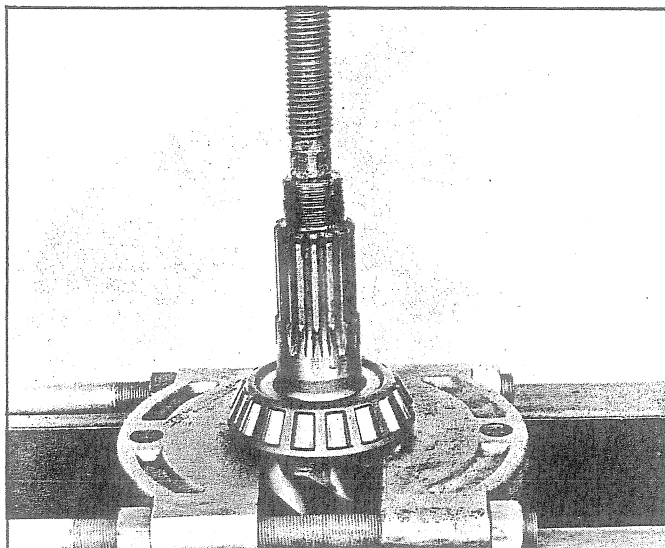

Fig. 52 - Pressing Center Bearing from Pinion Shaft
9. Press center bearing from pinion shaft as shown in Fig. 52.